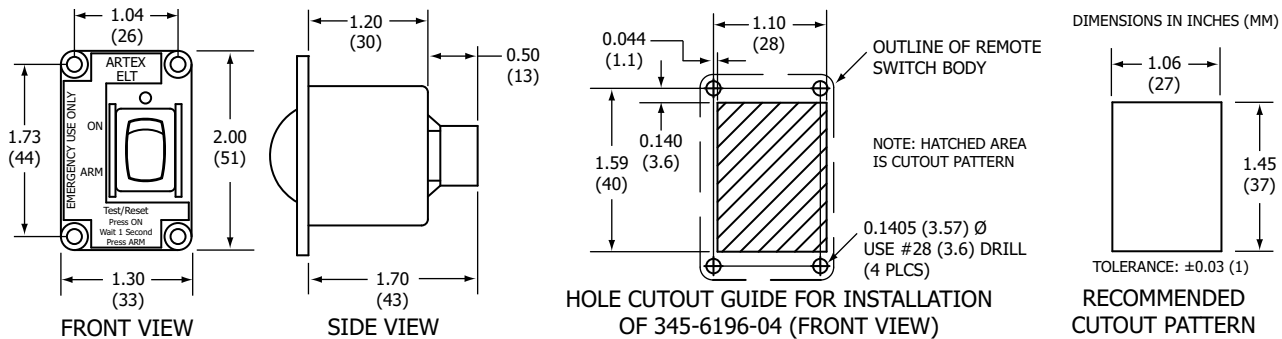

Figure 16 Remote Switch Outline and Dimensions
- (1) Select a suitable location for the remote switch assembly.
- (2) The switch assembly must be mounted in the cockpit where the pilot can easily reach the switch and see the LED.
- (3) The switch assembly requires a space approximately 2.0 x 1.3 in. (51 x 33 mm) on the panel surface and behind the panel. See Figure 16 Remote Switch Outline and Dimensions.
- (1) Mark the cutout on the cockpit panel. See Figure 16 Remote Switch Outline and Dimensions.
- (2) Fit the switch assembly into the cutout and mark the four screw holes, then remove the switch.
- (3) Drill the screw holes with a #28 or 3.6 mm drill.
- (4) Install the switch assembly using the hardware provided in the remote switch installation kit (455-6196).